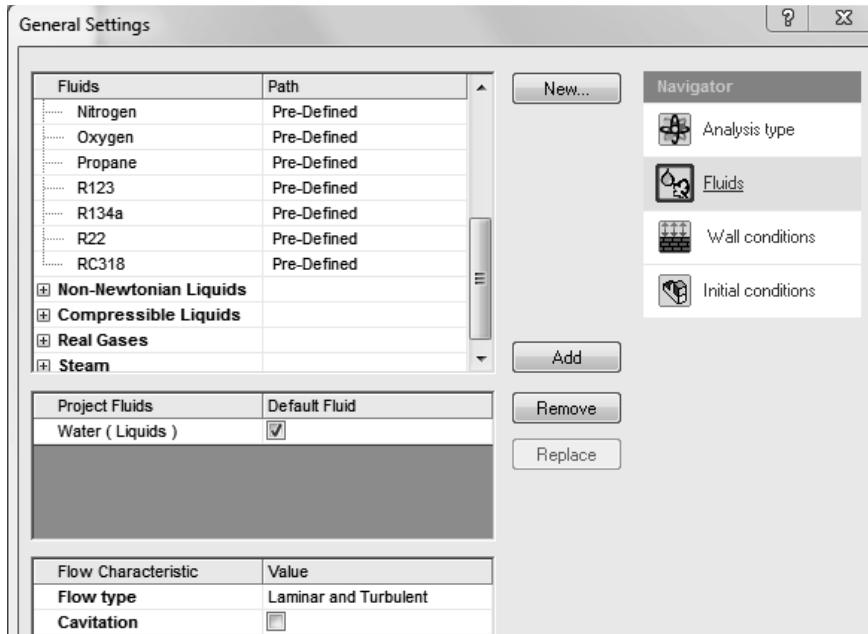

Figure 2.27d) Selection of fluid and flow type
29. In the next step, we will clone the project. Select **Tools>>Flow Simulation>>Project>>Clone Project...** Enter the Project Name “**Flat Plate Boundary Layer Study Using Water.**” Select **Create New Configuration** and exit the **Clone Project** window. Next, change the fluid to water in order to get higher Reynolds numbers. Start by selecting **Tools>>Flow Simulation>>General Settings...** from the SOLIDWORKS menu. Click on **Fluids** in the **Navigator** portion and click on the **Remove** button. Select **Water** from the **Liquids** and **Add** it as the **Project Fluid**. Change the **Flow type** to **Laminar and Turbulent**; see figure 2.27d). Click on the **OK** button to close the **General Setting** window.